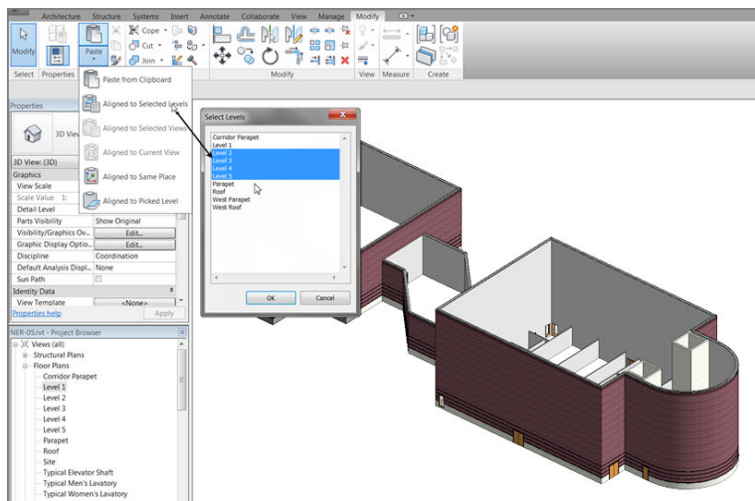

FIGURE 4.51: The Select Levels dialog box enables you to choose the levels to which you're pasting the information.
5. On the Clipboard panel of the Modify | Multi-Select tab, expand the Paste tool and then click Aligned To Selected Levels, as shown in Figure 4.51.
6. In the next dialog box, hold down the Shift key and select Floor Plan: Levels 2 through 5 (see Figure 4.51).